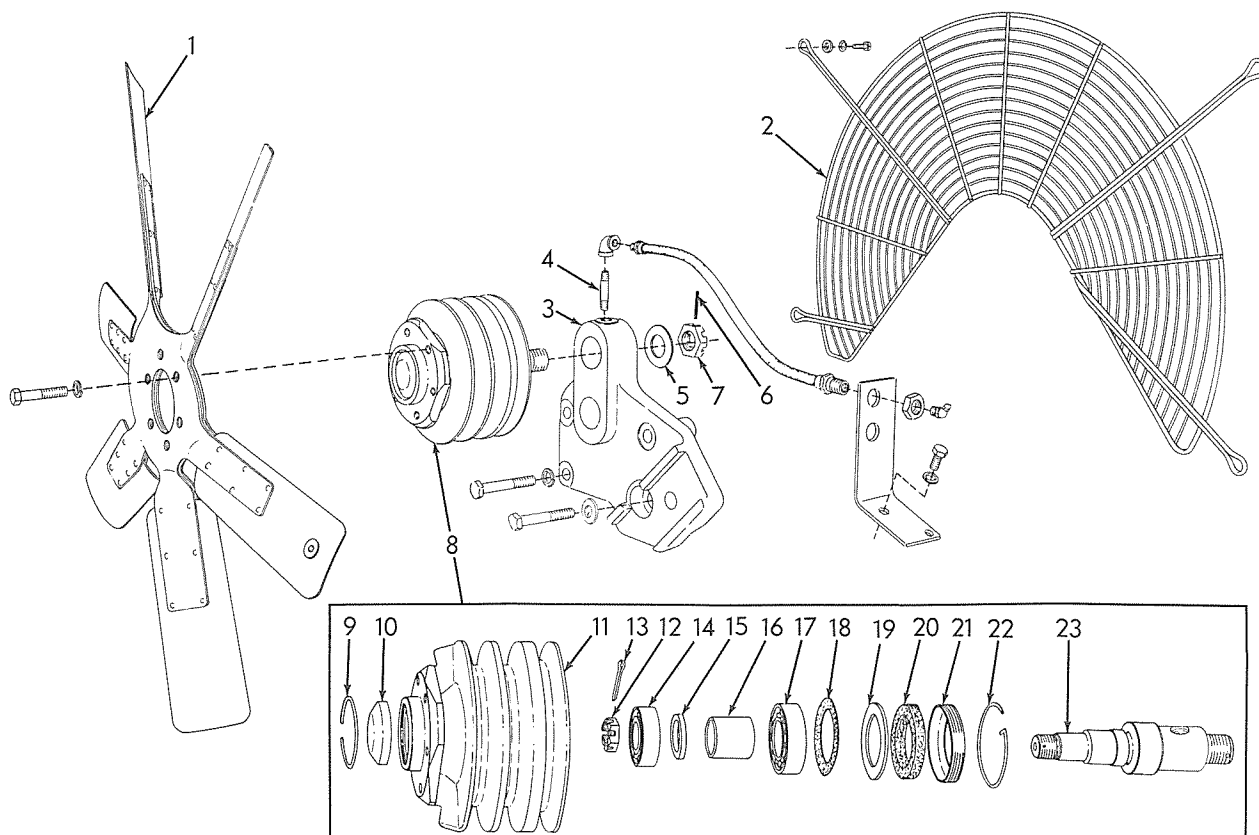

Fig. 7—Fan Hub Details (Track-Type Tractors)
- a. Remove snap ring (9) and hub cap (10).
- b. Remove lockwire (22) and turn retainer (21) out of fan hub (11). Remove sealing washer (20), retaining washer (19), and gasket (18) from fan hub.
- c. Place fan hub assembly in a press, fan end up. Press on fan end of spindle (23) and remove spindle and bearings (14) (17) from hub (11).
- d. Remove cotter pin (13) and nut (12) and press spindle (23) from bearings (14) (17).
- e. Wash all parts thoroughly in clean solvent or fuel and inspect parts for wear or damage. Rotate ball bearings by hand and check for looseness, roughness, and binding. Inspect spindle and make certain it is not bent or worn and that the threads are not damaged. Inspect fan hub for wear and make certain that pulley grooves are smooth and that pulley is not chipped or cracked. Discard sealing washer (20) and retaining washer gasket (18). Inspect generator drive belt and fan drive belts. Replace if they are worn or frayed.
1. FAN HUB ASSEMBLY (Fig. 7 or 8)
The internal parts of the fan hub assemblies, Figs. 7